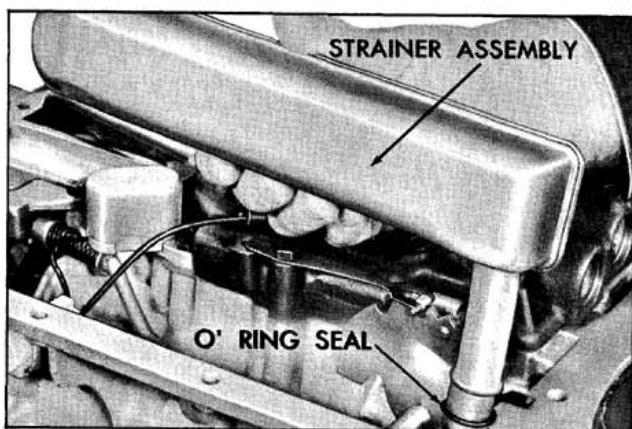

Fig. 6-34 Removing Strainer Assembly
5. Remove the strainer assembly. (Fig. 6-34)